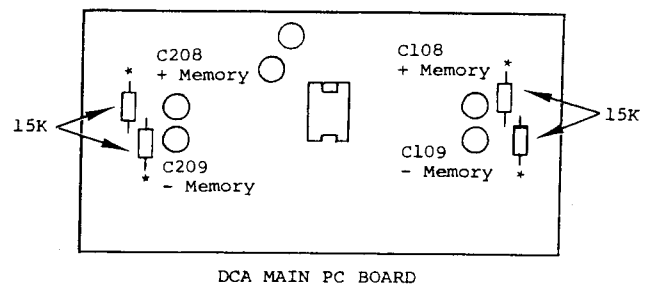

FIGURE 5-3
Positive and negative memory capacitors are used in each channel to adjust the sensitivity and activation of the protection circuit. The operating point of the protection circuitry depends on the previous signal history fed back to the memory capacitors. Their operation is verified by monitoring the voltages developed across them for various conditions of output operation. Refer to Figure 5-3. The memory capacitors are vertically mounted white components mounted in pairs near each end of the DCA main pc board.
3. Make voltage measurement across the memory capacitor by placing the voltmeter reference leads between the output of the channel under test and the leads of the 15K resistors adjacent to the memory capacitors. Test point locations are shown in Figure 5-3 as \*.